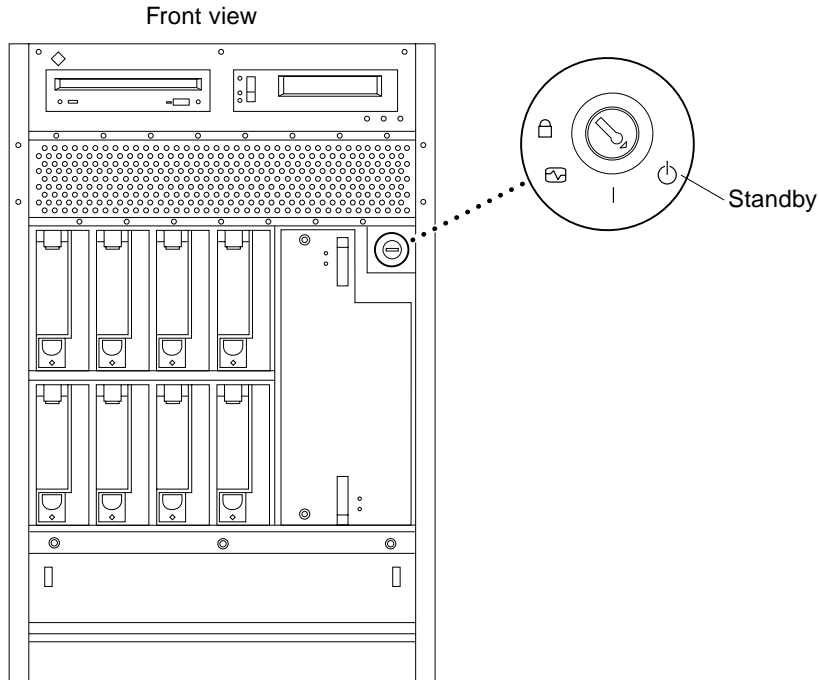

FIGURE 2-2 Key Switch Standby Position
2. Locate the system key switch in the upper right corner, insert the key provided, and turn the key switch to  (the Standby position) (FIGURE 2-2).